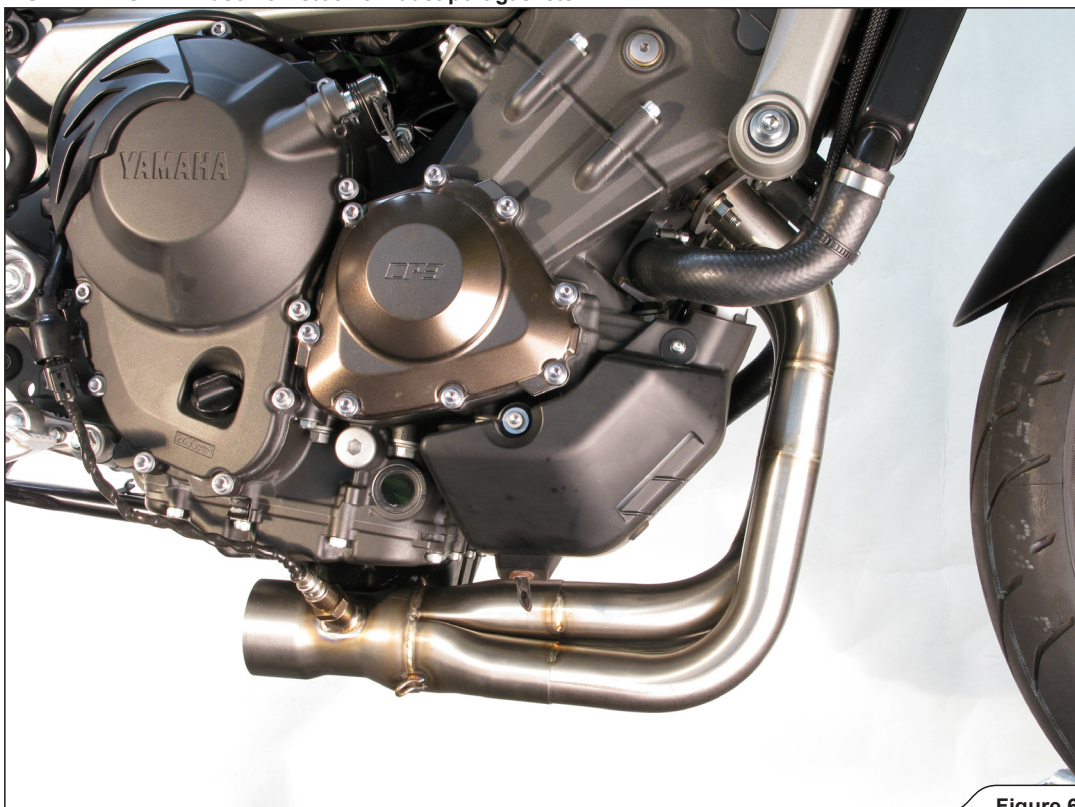

Figure 6
1. Install the Akrapovič headers and hand tighten the flanges onto the cylinder head (using stock nuts) and tighten the lambda sensor into the collector (**Figure 6, 7, 8**).